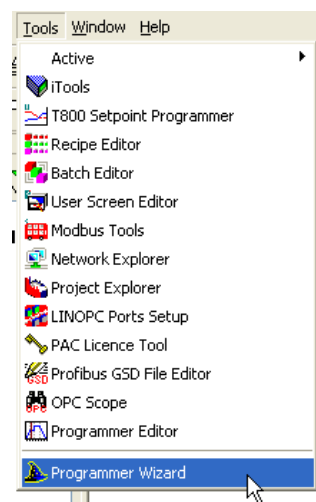

Figure 98 Tools menu
1. With LINtools running, click on the Tools menu, then on 'Programmer wizard' (Figure 98, above).